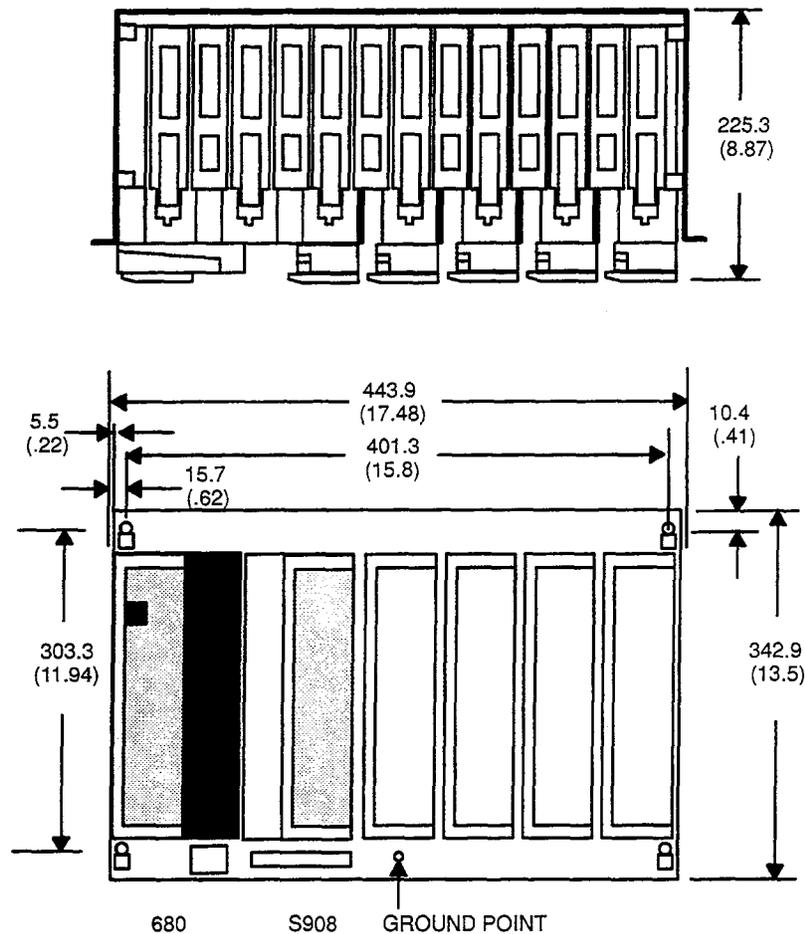

Figure 25 Remote I/O H819 Panel/Bulkhead Mounting Dimensions
As shown in Figure 25, the housing has keyholes at the top and bottom of the housing for bulkhead mounting purposes. The keyholes are sized for 5/16-inch bolts. The recommended ground point is also shown.
- Step 3** Install 1/4 inch inserts into the panel or metal mounting surface for your primary housing as shown in Figures 25 and 26.